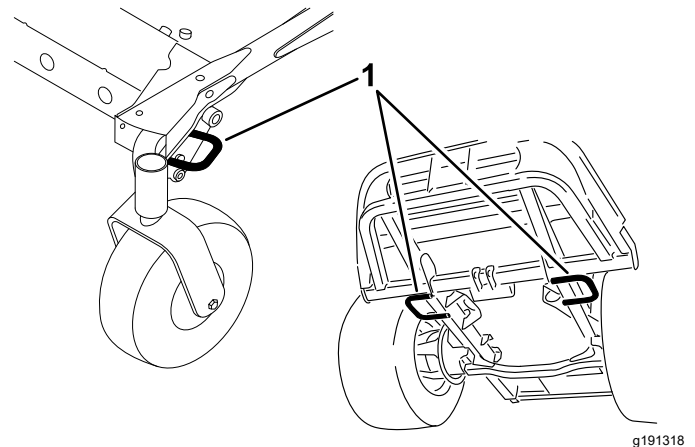

Figure 66
5. Use the tie-down loops on the machine to securely fasten it to the trailer or truck with straps, chains, cable, or ropes (Figure 66).